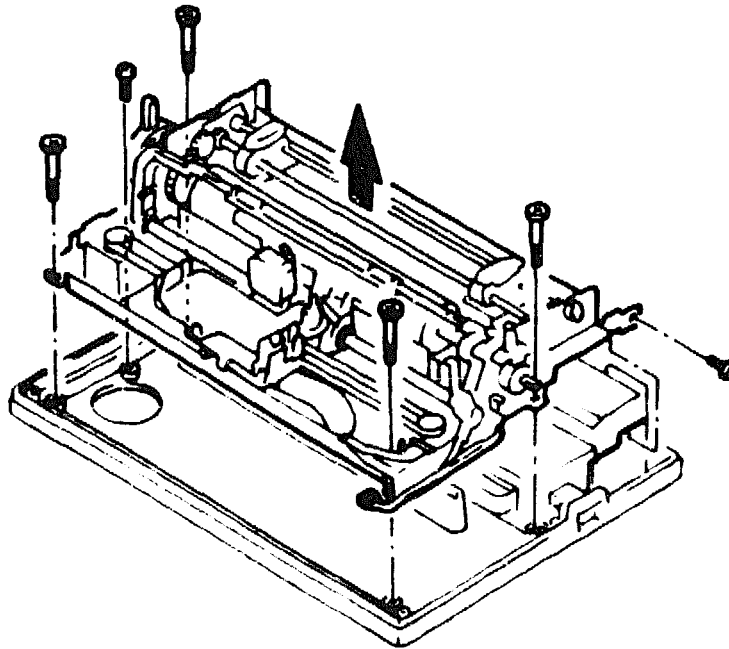

Figure 6-19 Removing the Mechanical Assembly
1. Remove the five screws holding the mechanical assembly (Figure 6-19).
2. Remove the screw connecting the ground strap to the power supply (Figure 6-19).
3. Remove the mechanical assembly (Figure 6-19).